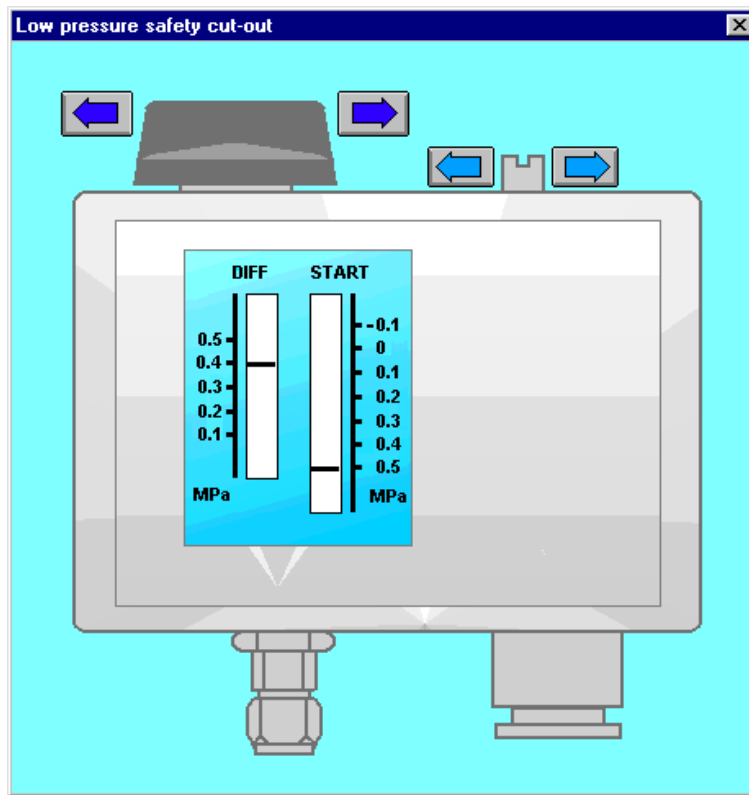

Fig. 5.4 Low pressure safety cut-out diagram /LPC/
5. Start the compressor (point and click with the mouse in the proximity of **ON**) The yellow lamp **STAND BY** indicates that the compressor is ready to work. At the same time the blue lamp **OIL HEATER** lights indicating that lubricating oil in the compressor crankcase is heated. The compressor starts (the green lamp **START** turns on while the lamp **OIL HEATER** turns off) when suction pressure p_s , (shown in display) increases above the setting pressure at the low pressure safety cut-out LPC Fig. 5.4. The compressor stops when the suction pressure will be lower than stop compressor pressure set on LPC. **START - DIFF = STOP**.
3. If outlet valve from shell and coil condenser is not opened the compressor starts and will work until all refrigerant vapour from the chamber evaporators is sucked off and suction pressure p_s decreases below the pressure set at the low pressure safety cut-out LPC. The compressor starts automatically when suction pressure increases over the value set at the LPC Fig. 5.4.
1. If shut-off valve placed at suction compressor line is closed Fig. 4.45, after a few seconds the low pressure safety cut-out stops the compressor. When suction line pressure increases over the value set on the LPC Fig. 5.4 the compressor starts automatically.
4. If outlet valve from shell and coil condenser is closed the compressor stops after suction pressure decreases below the value set on the low pressure safety cut-out LPC. The temperature in the chambers slowly rises. The compressor starts automatically when suction pressure increases over the value set on the LPC Fig. 5.4.
Suction pressure which makes the compressor stop is set on the low pressure safety cut-out LPC. The start compressor pressure values **START** are marked on the right side of the LPC scale. This pressure setting is realised by mouse clicking on the adjustment screw arrow field (on the right side). The values of the difference between compressor start pressure and compressor stop pressure **DIFF** are marked on the scale on the left side of the LPC Fig. 5.4. This difference can be adjusted by mouse clicking in the difference adjustment tap arrow field (on the left side). Stop compressor pressure **STOP** equals to the difference between start compressor pressure **START** and differential **DIFF** set in on the LPT scale.
1. Low pressure safety cut-out LPC Fig. 5.4 diagram is opened by mouse clicking at LPC symbol field placed on the installation diagram. After adjustment, close the LPC zoom
2. Compressor stopping pressure should be set on such level as to obtain demanded temperature in chambers. For this purpose, it is necessary to set pressure on LPC Fig. 5.4 corresponding to the demanded temperature in chamber 1 but decreased by the temperature difference necessary for the heat exchange process. For example, if this temperature is about 8°C and the evaporating temperature read from pressure gauge is -10°C, then the lowest temperature possible to obtain in the chamber is equal to -2°C.